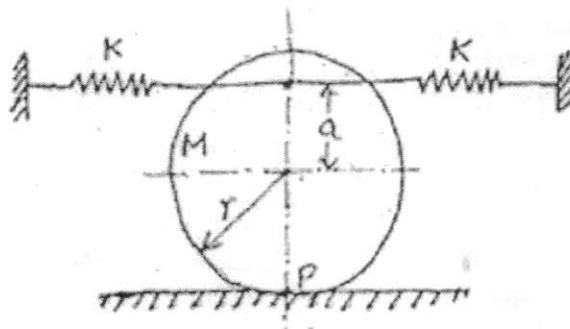

Fig. 1 (c)
- c) Find the natural frequency for the system shown in Fig. 1 (c).